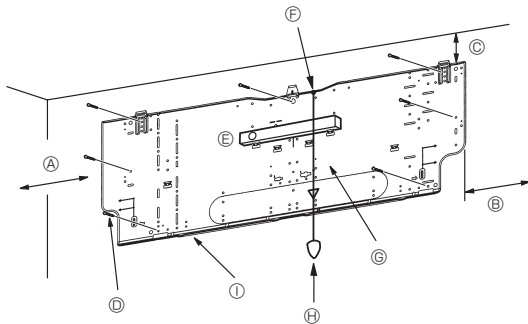

Fig. 3-4
3.2.3. Installing the wall mounting fixture (Fig. 3-4)